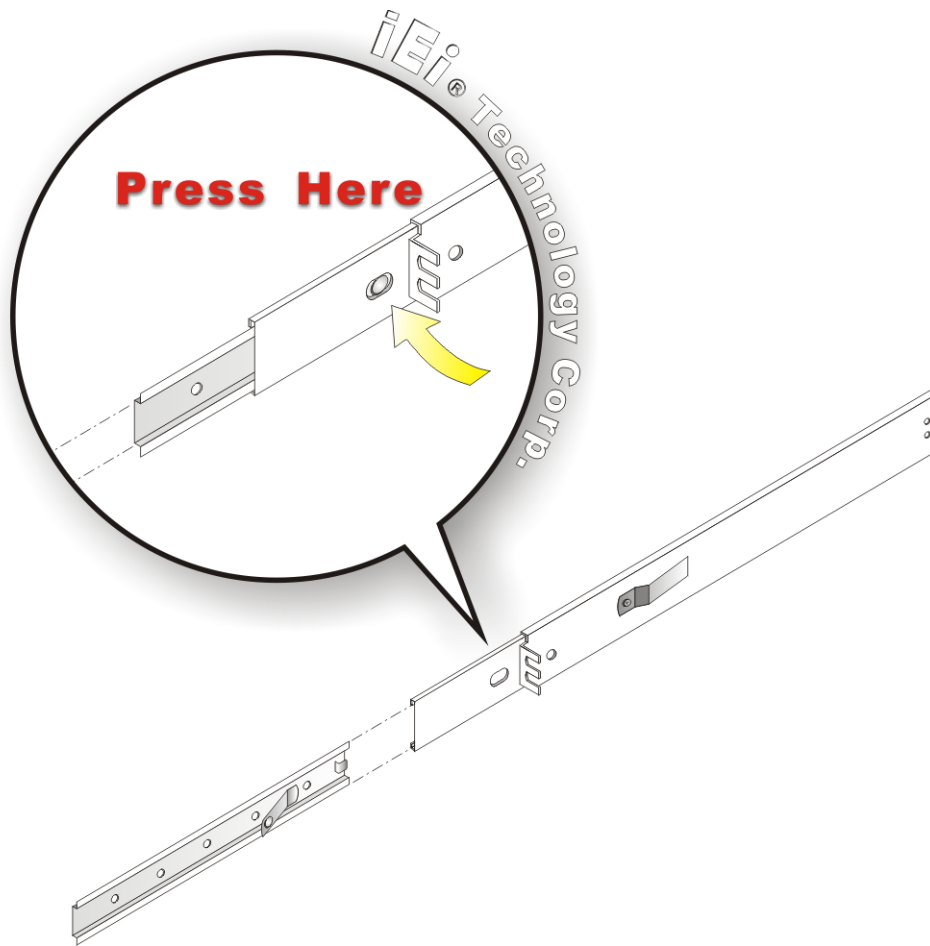

Figure 4-17: Remove Rack Slide
Step 2: Remove the rack slides from the rack slide brackets. (See **Figure 4-17**)